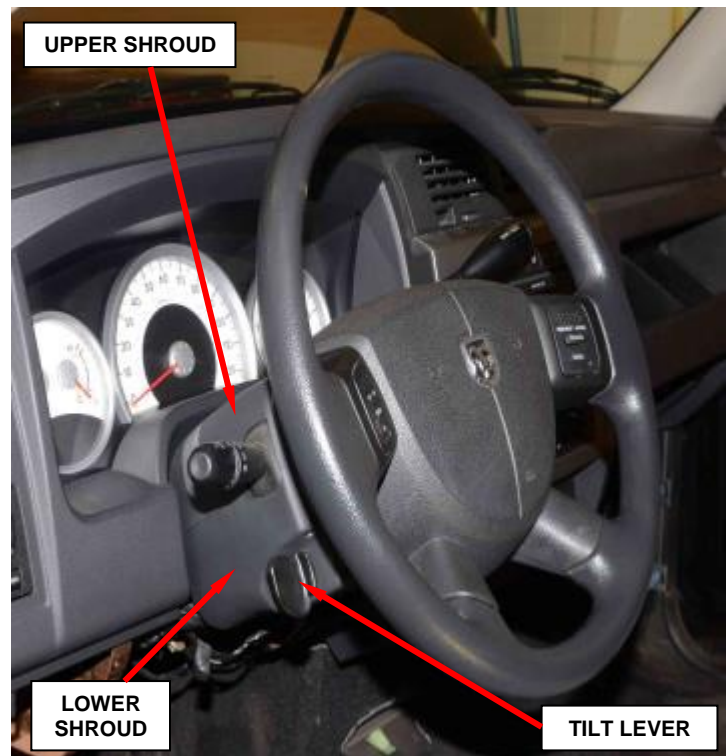

Figure 102 – Steering Column Shrouds
9. Remove the steering column tilt lever knob (Figure 102).
10. Remove the three screws from the lower steering column shroud and remove the upper and lower shrouds (Figure 102).